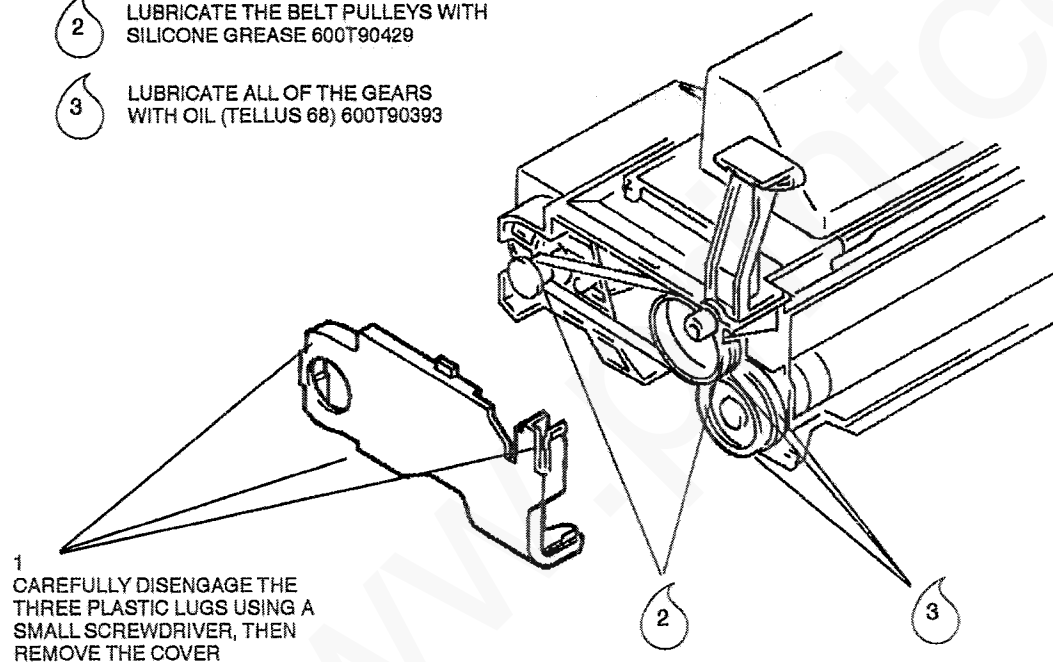

Figure 1. Developer drive gears lubrication
3. (Figure 1) Lubricate the developer unit drive gears as indicated.